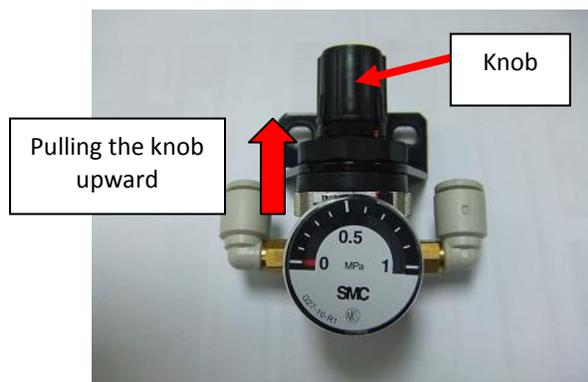

Figure 33: Pulling the knob upwards
31. The next step will involve the adjustment of the operating pressure for both pressure regulators at *P1* and *P2*. In order to adjust the operating pressure, pulled the knob upwards as shown in Figure 33. Then, rotate the knob in clockwise direction to increase the operating pressure and vice versa.